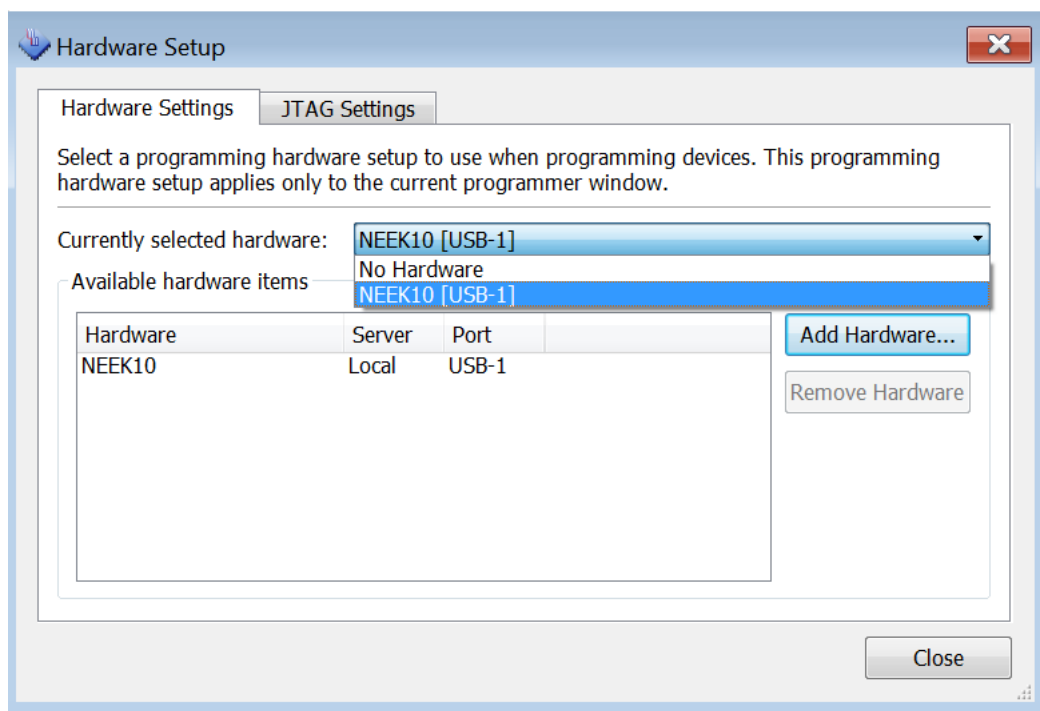

Figure 4-4 Hardware Setting
3. If it is not already turned on, turn on the USB-Blaster II [USB-0] option under currently selected hardware. See **Figure 4-4**.